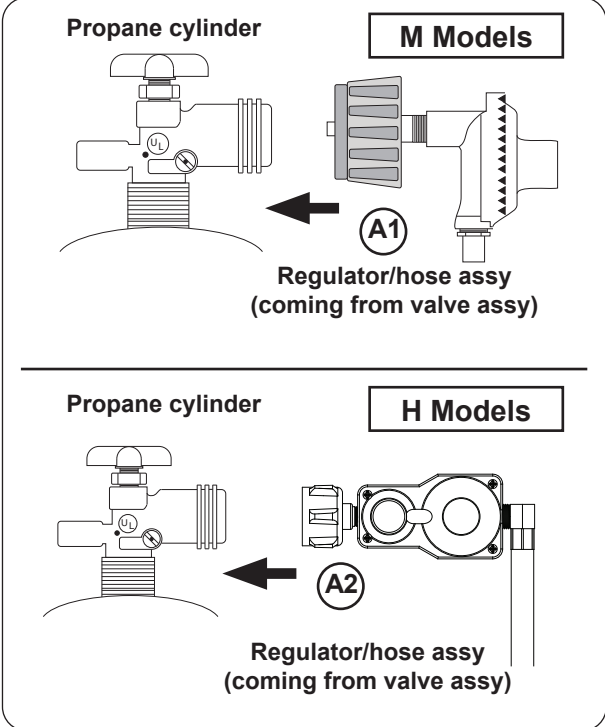

Fig. 27-2 Connecting hose assy to L.P. cylinder
2. Attach the regulator end of the hose assembly to a propane cylinder (not included) and tighten (see Fig. 27-2, A1 or A2).